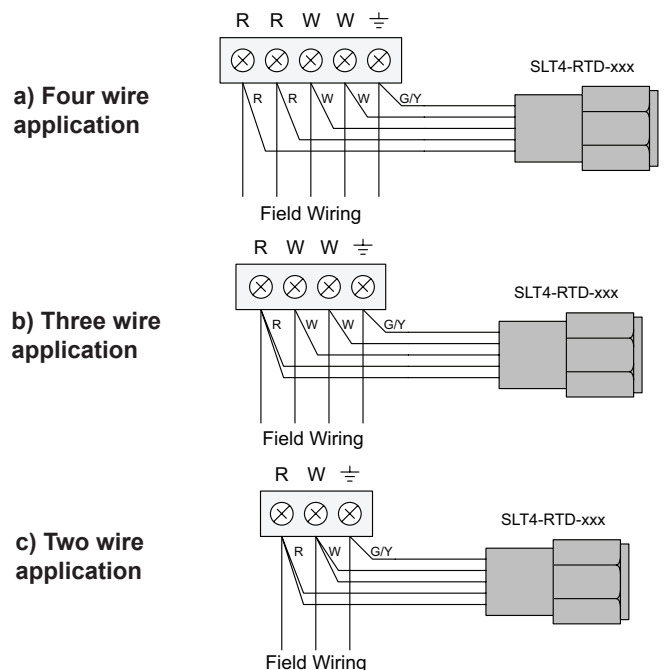

Figure 3: Wiring of IS-SLT4-RTD-xxx models
3.5 **Wiring:** RTD threaded instrument protectors are shunt connected in parallel with the equipment (Figure 3).
The arrangement of the wiring is shown in Figure 3. Connect each wire to its appropriate terminal. For three wire RTDs, connect both red wires in parallel to the red terminal. For two wire RTDs connect both the red and white wire pairs in parallel with the red and white terminals respectively. The green/yellow earth wire should be connected to the earth terminal within the equipment housing.